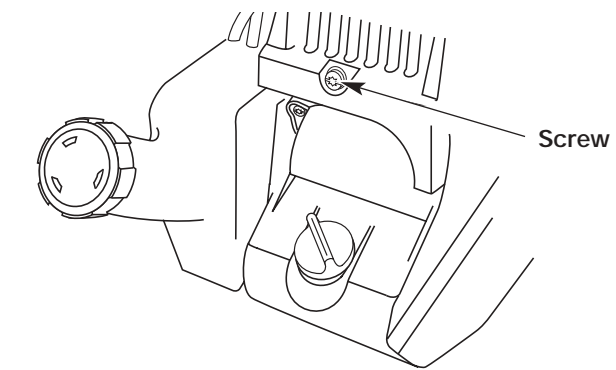

Fig. 25
2. Remove the screw behind the engine cover (Fig. 25).